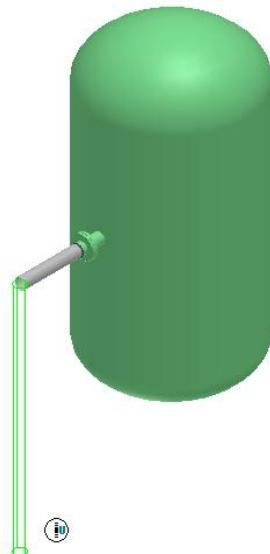

Figure 7. 34: Placed Pipe
10. Key in **15 ft** in the **Length** drop-down list on the **Route Pipe** ribbon. Move the cursor towards the left until SmartSketch displays the **E** glyph as shown in Figure 7. 35 and click in the graphic view to place the pipe.